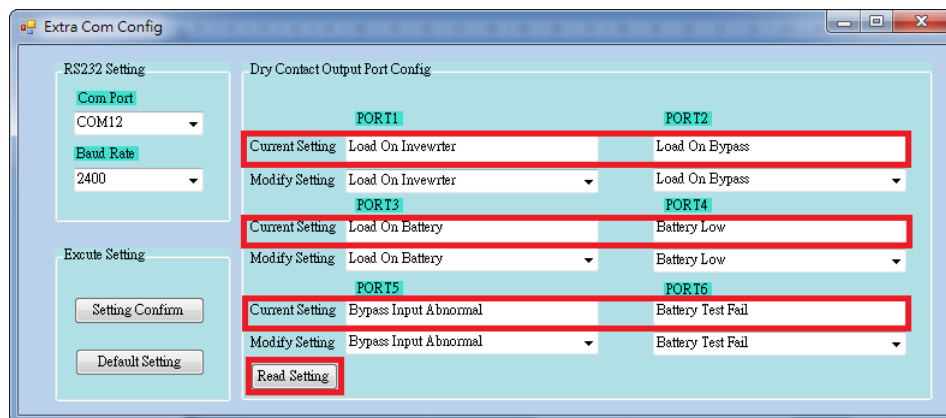

Figure 5-21
Step 3: Click “Read Setting” button to check the current setting of the dry contact output port. Refer to screen in Figure 5-21.